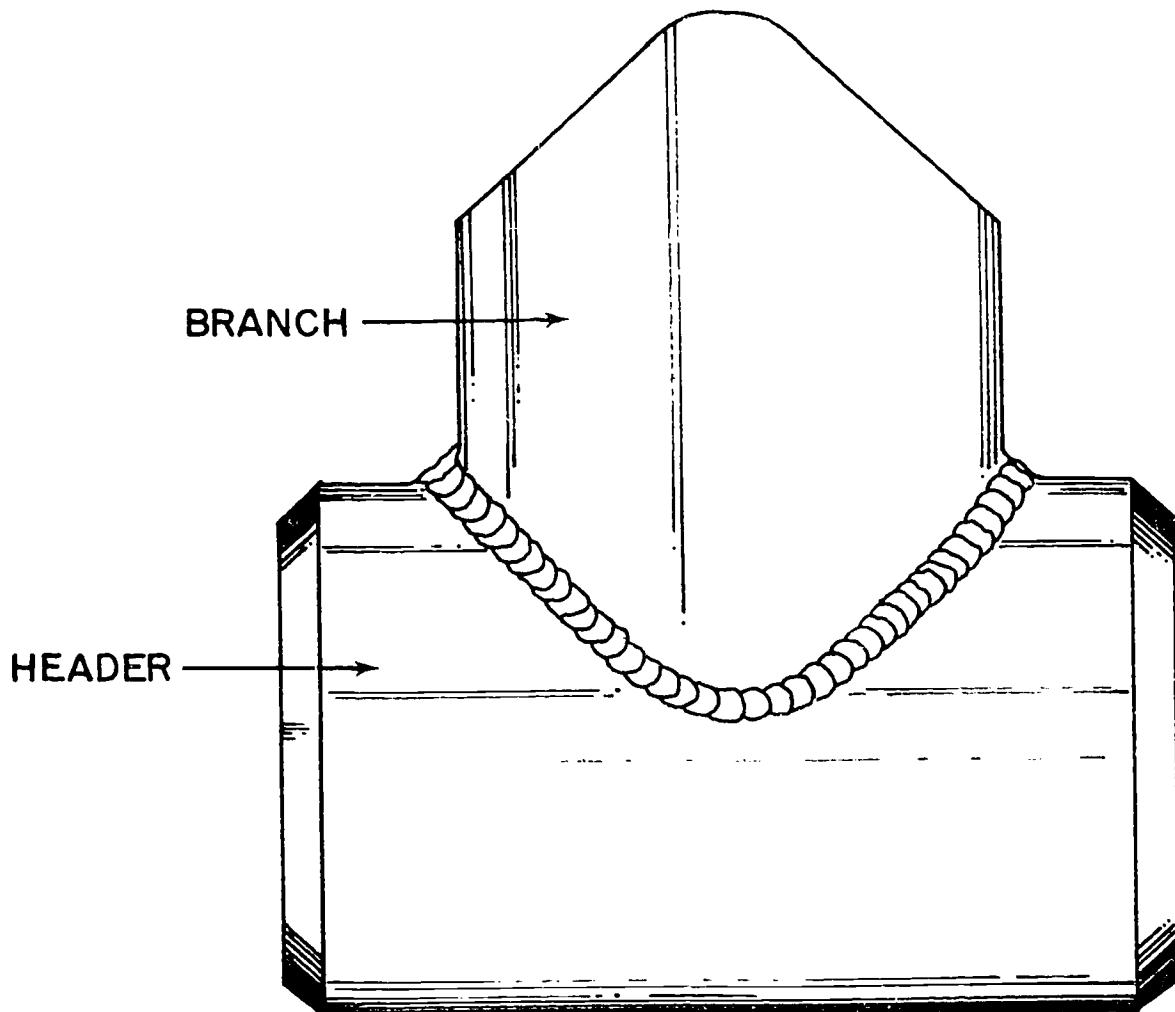

Figure 7-17. Stainless steel tee joint.
**Tee Joints.** Tee welds must be fitted up carefully. The edges must be thoroughly cleaned and all burrs removed to prevent unequal spacing around the joint. The edges should fit snugly and should be evenly spaced to allow for proper penetration and to prevent burn through. Tilt the torch head slightly toward the root of the joint and in the direction of travel. Take particular care to insure that penetration at the root of the weld is 15 to 85 percent of the pipe wall thickness ( $T$ ). The reinforcement should not exceed the thickness of the pipe wall. The contour of the bead should be slightly convex. The weld metal should taper smoothly into each pipe with no overlap, and the width of the bead should be from 2 to 3 times the wall thickness. The surface appearance should be dark bronze or light purple. A completed tee joint is shown in figure 7-17.